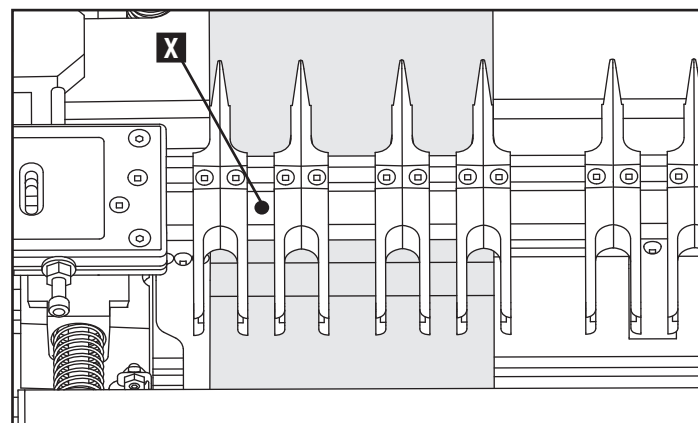

Fig. D4
2. The variable finger pairs must be set up to have a minimum 1/8" gap (X) between them as shown in Fig. D4.